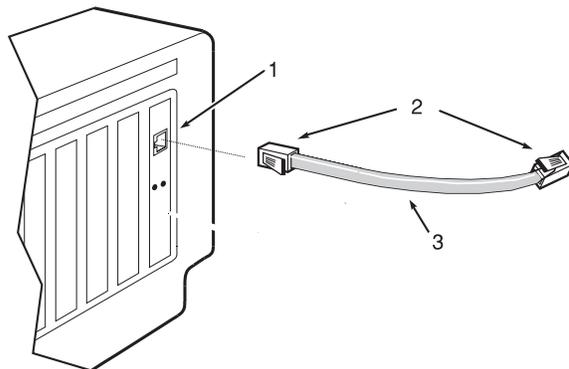

Figure 5-1. Connecting the Adapter to the Network
- Insert the male RJ-45 jack at one end of the unshielded twisted-pair wire segment into the female RJ-45 connector (see Figure 5-1).